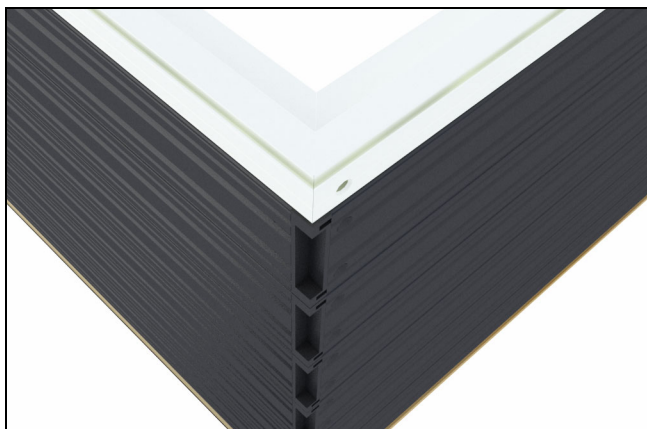

Figure 52
2. Align side jamb to head jamb, using frame cladding corner key as reference. Slide until miter is aligned. See figure 52.